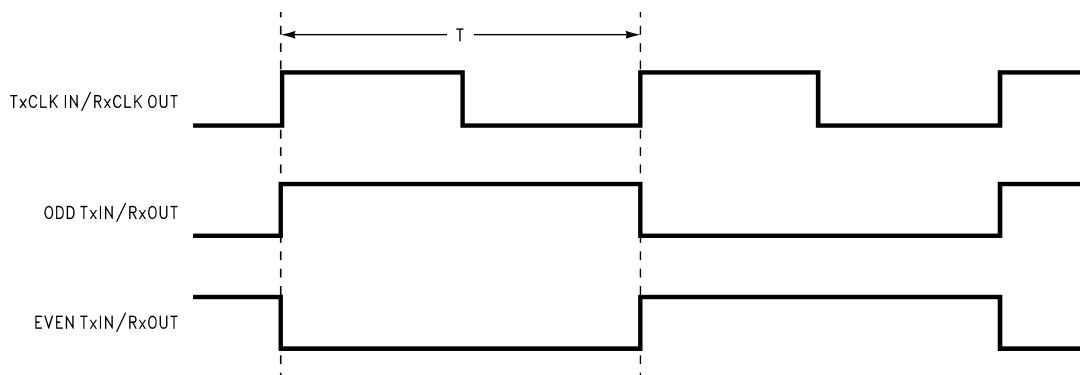

Figure 3. "Worst Case" Test Pattern
- (1) The worst case test pattern produces a maximum toggling of digital circuits, LVDS I/O and CMOS/TTL I/O.
- (2) The 16 grayscale test pattern tests device power consumption for a "typical" LCD display pattern. The test pattern approximates signal switching needed to produce groups of 16 vertical stripes across the display.
- (3) Figure 3 and Figure 4 show a falling edge data strobe (TxCLK IN/RxCLK OUT).
- (4) Recommended pin to signal mapping. Customer may choose to define differently.